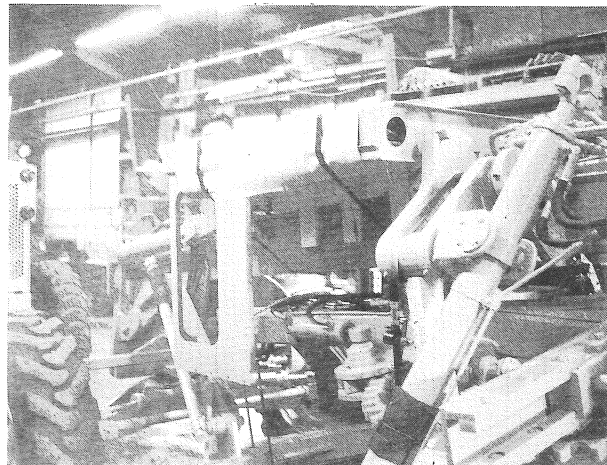

Figure 3
2. After disconnecting wiring as necessary, the upper half of the cab is removed and positioned on the forward part of the frame on a wooden support platform (Fig. 3).